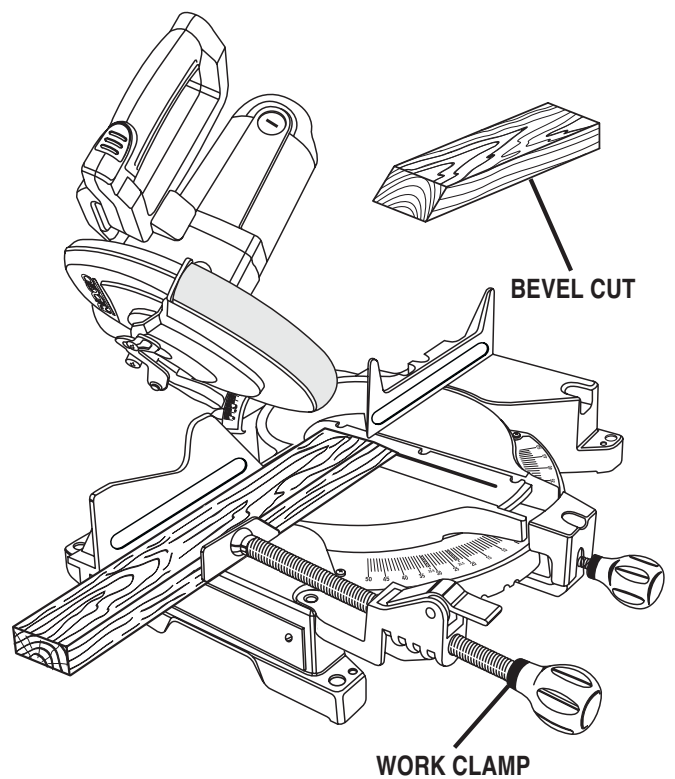

Fig. 24
- Grasp the stock firmly with one hand and secure it against the fence. Use the optional work clamp or a C-clamp to secure the workpiece when possible. See Figure 24.